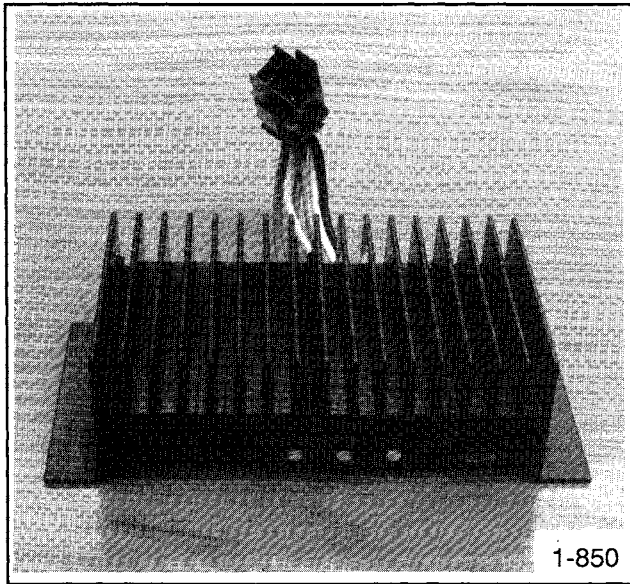

Figure 7-1. PowerBoost IIIIE Voltage Regulator.
1. Disconnect all leads from voltage regulator. See Figure 7-1.